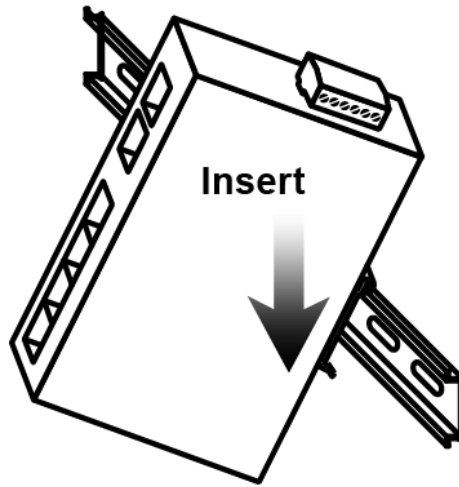

Figure 3.2: Insert the Injector on the DIN-Rail
- Step 3. After the DIN-Rail bracket is installed on the rear side of the injector, insert the top of the DIN-Rail on to the track as shown below in Figure 3.2.